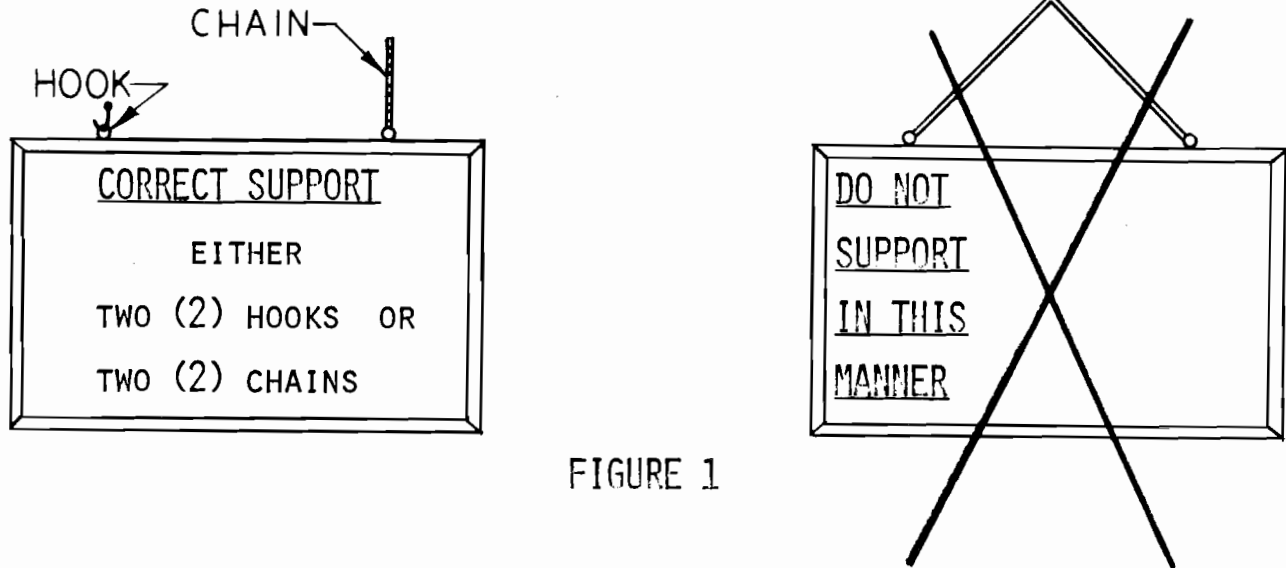

FIGURE 1
- 1.) The game is designed to be supported from two points by either hooks or chains (Refer to FIGURE 1.).